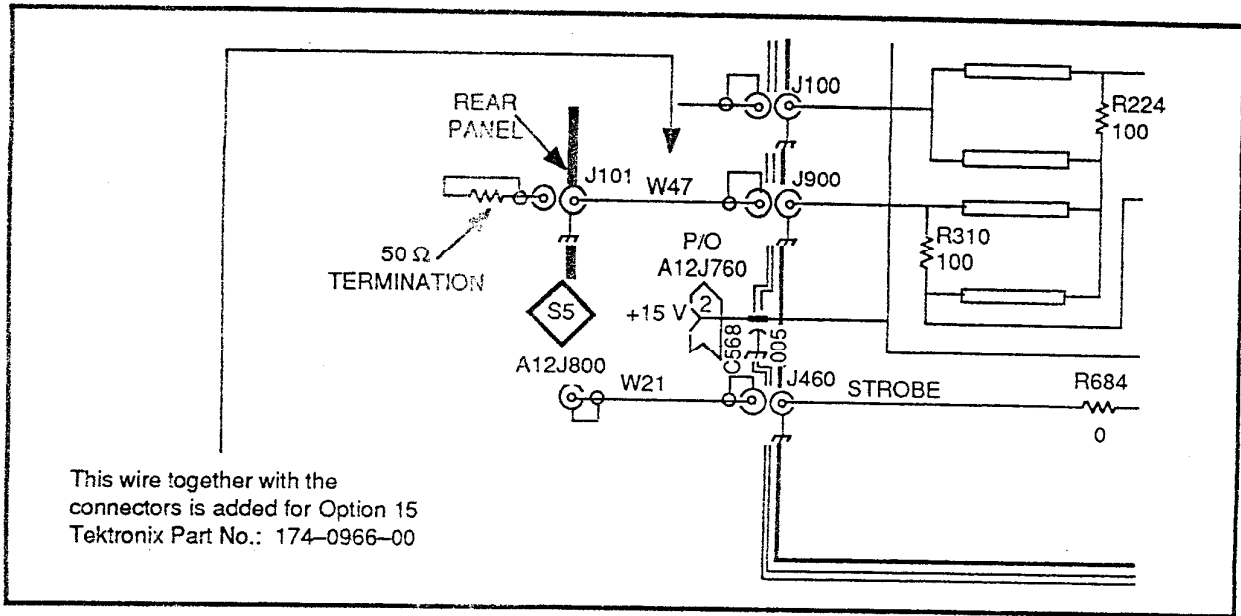

Figure 7-3. Partial 1st LO Buffer Amp schematic.
**Option 15** Provides an interface for a 1405 TV Sideband Analyzer. The 1st LO is routed to J101 at the rear panel and terminated in 50  $\Omega$ . See Figure 7-3.